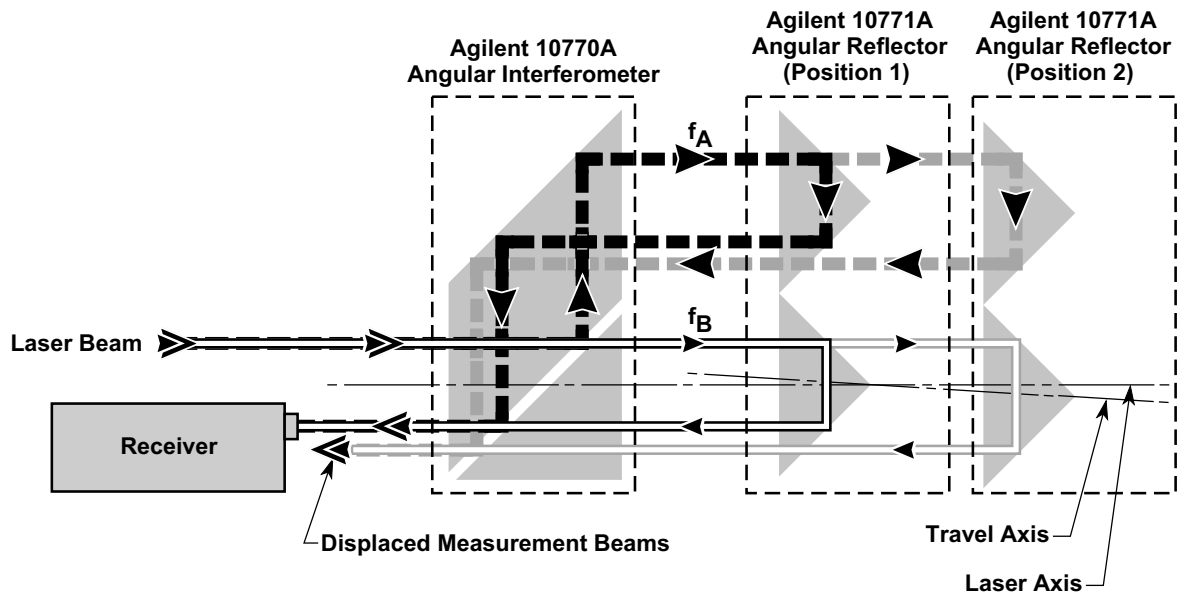

Figure 7V-3. Measurement beam dots movement
4. Move the reflector away from the interferometer. If the laser beam is not parallel to the axis of travel, the measurement beams will begin to move away from their original position on the receiver aperture. The impinging beams will move until the beam is cut off by the edge of the interferometer's aperture. Stop moving the reflector before the beam is blocked, or when the end of travel is reached. Figure 7V-3 illustrates this situation.